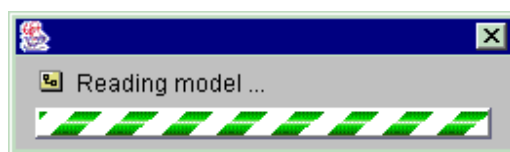

Figure 100 : Operator Bar graph reading
- A bar graph *Reading model* (Figure 100) indicates that the operator is in course of reading.